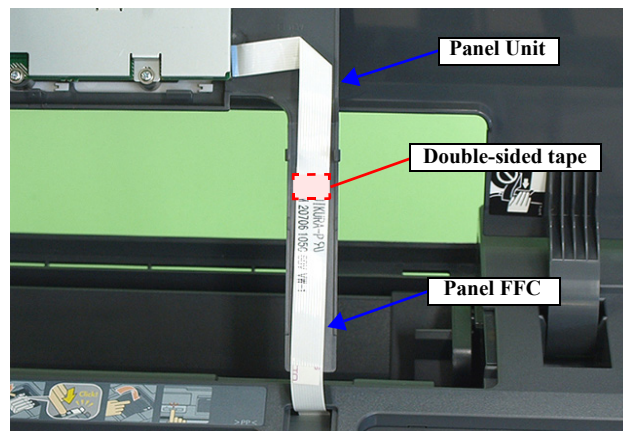

Figure 8-12. Securing the Panel FFC
- Route the Panel FFC correctly as shown in *Figure 8-12*.